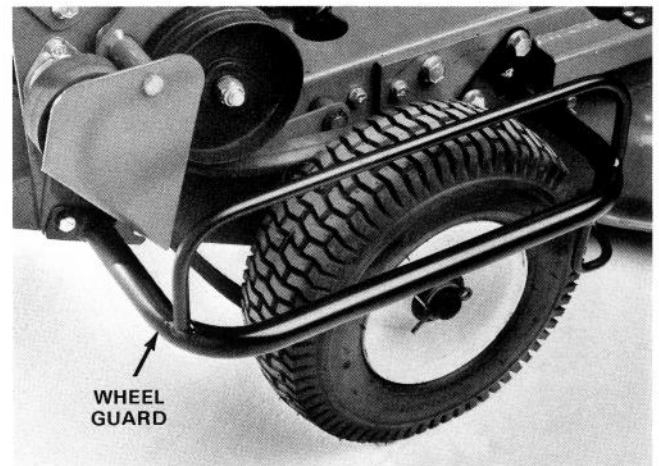

Figure 3
3. Using (2) 3/8-16 x 1-1/4" lg. capscrews and (2) 1/2-13 x 1-3/4" lg. flange head capscrews (supplied in loose parts bag) and locknuts and flange head locknuts previously removed, mount wheel guard to frame as shown in fig.3.